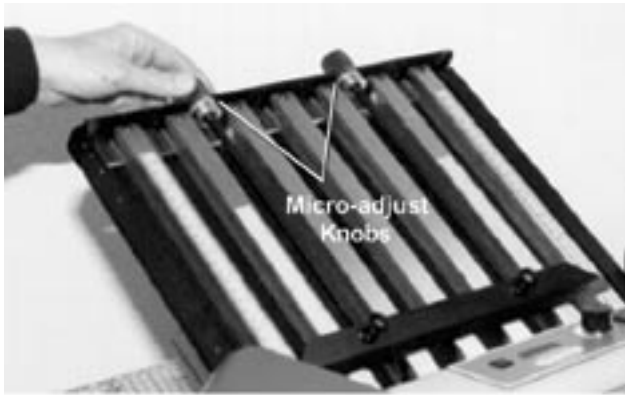

Fig 33
6. Set up tear bar as before. (Fig. 33)